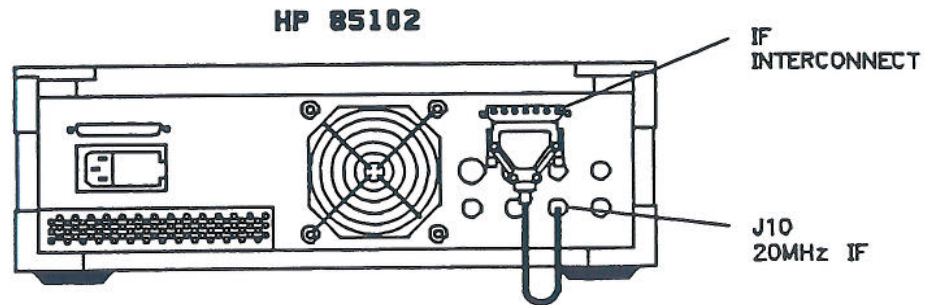

Figure 5-7 Service Adapter Connections
1. Connect the service adapter as shown in Figure 5-7.